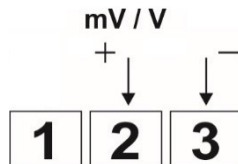

Figure 11 – 50 mV, 5 V, and 10 V connections
- **50 mV, 5 V, and 10 V:** Figure 11 shows the connection mode for 0-50 mV, 5 V, and 10 V.